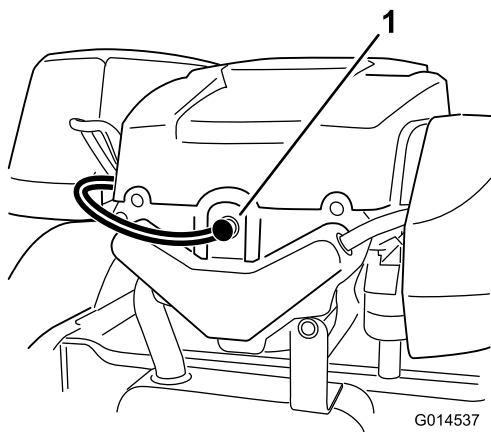

Figure 33
2. Pull the wire off of the spark plug (Figure 33). Clean around the spark plug to prevent dirt from falling into the engine and potentially causing damage.
3. Push the wire onto the spark plug (Figure 33).